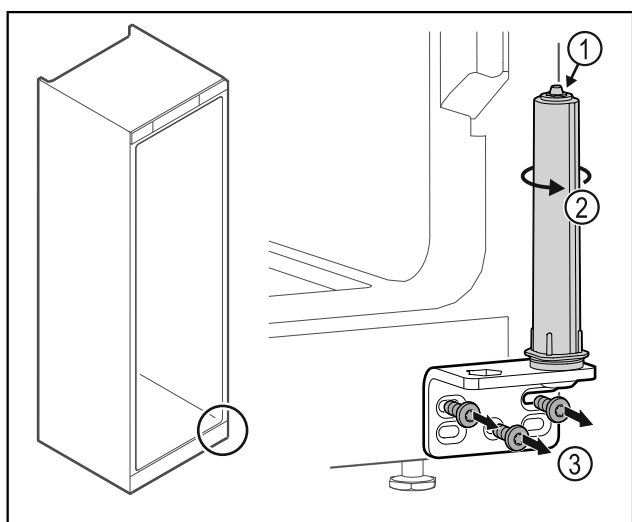

Fig. 35
- ▶ Do not disassemble the door closing system Fig. 35 (1).
- ▶ Turn the closing system Fig. 35 (2) until it clicks.
- ▶ Unscrew the hinge Fig. 35 (3).